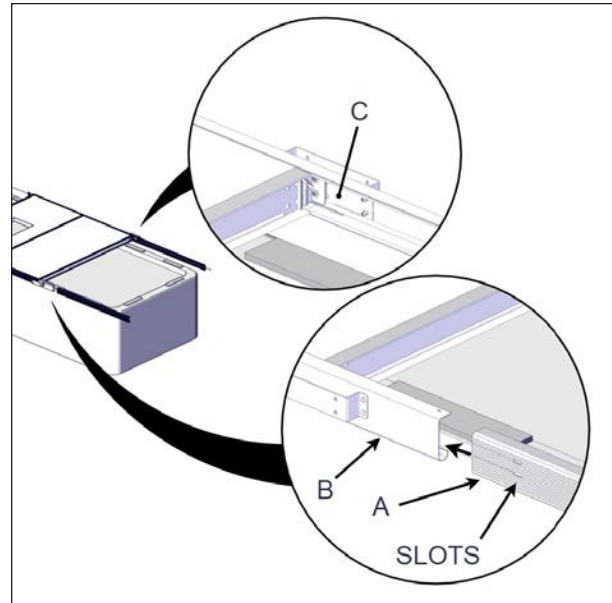

FIGURE 48: SIDE EXTENSION C-CHANNEL INSTALLATION
11. Insert the side extension C-channel inside the support bracket, see Figure 48.
There are two slots at one end of the C-channels. The slots must go toward the cover see Figure 48.